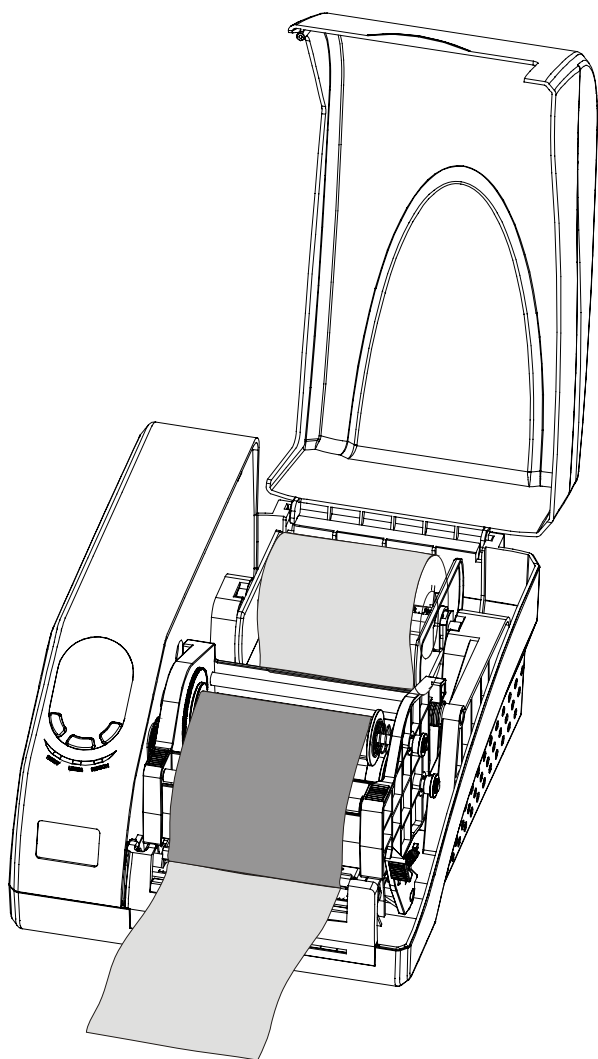

Figure 6-4
8. Close the Printhead Module and press down until it locks into place (Figure 6-4).